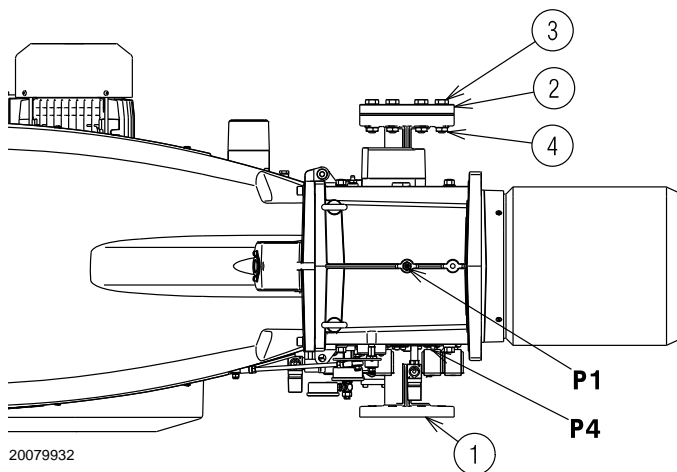

Fig. 26
The gas train is to be connected on the right of the burner, by flange 1)(Fig. 26).
Gas pressure measured at test point P1)(Fig. 26), with:
Pressure loss at gas butterfly valve P4)(Fig. 26) with maximum opening: 90°.
- subtract the combustion chamber pressure from the gas pressure measured at test point P1)(Fig. 26).
Gas pressure at test point P1)(Fig. 26) = 28.3 mbar
To calculate the required gas pressure at test point P1)(Fig. 26), set the maximum modulating output required from the burner operation:
- read, on the right (column 1), the pressure at the test point P1)(Fig. 26).
pressure required at test point P1)(Fig. 26).